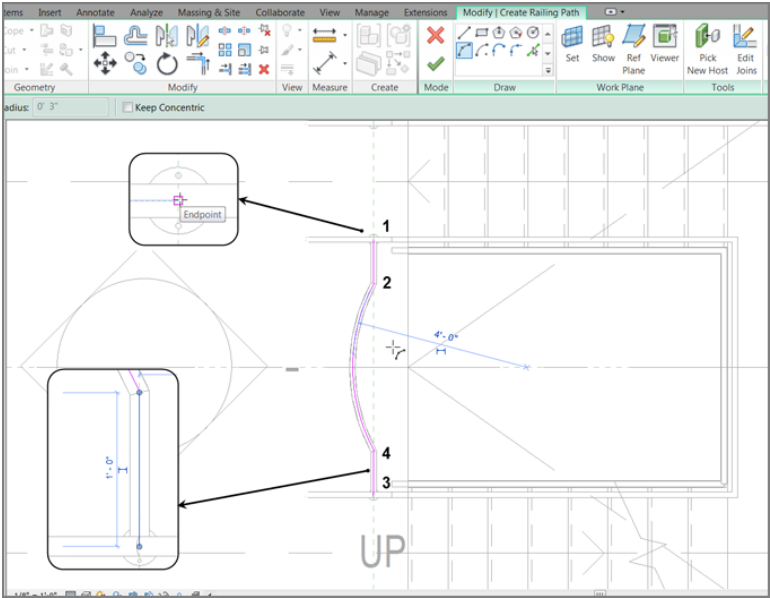

FIGURE 10.27: Creating the middle railing
3. Draw a line down 1'-0" (300mm) from the intersection of the upper-south ADA railing extension and the reference planes, as shown in Figure 10.27.
4. Draw a line up 1'-0" (300mm) from the top ADA railing extension on the south leg of the stairs (see Figure 10.27).
5. On the Draw panel, click the Start-End-Radius Arc button (see Figure 10.27).
6. Draw a 4'-0" (1200mm) arc from the endpoints of the top and bottom lines (see Figure 10.27).